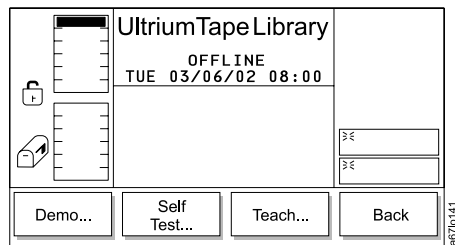

Figure 323. Exercise Submenu
4. Press the button below the **Exercise** softkey. The Exercise Submenu displays (see Figure 323).